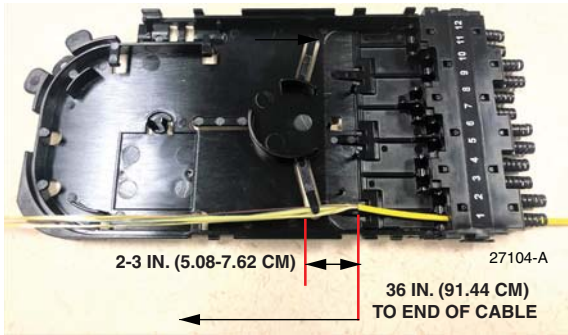

Figure 3. Removing Outer Jacket and Cutting Strength Member
3. Measure 36 inches (91.44 cm) from the end of the cable, and remove outer jacket. Cut strength member 2-3 inches (5.12-7.66 cm) from end of remaining cable jacket and discard it. Refer to Figure 3.